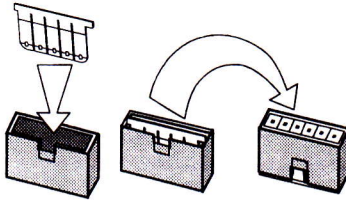

FIG. 2
1. Firstly you need to insert the metal connectors into the yellow housing. (Figure 2)